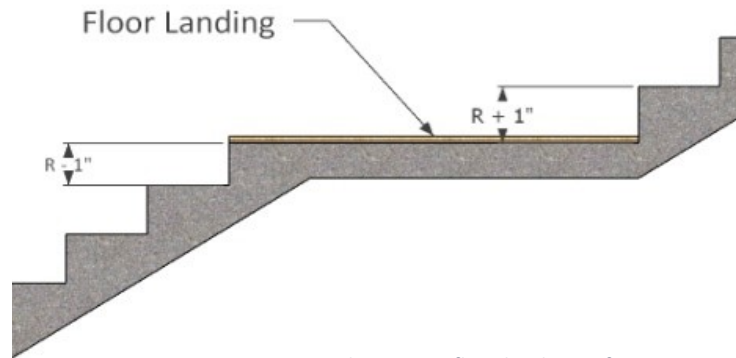

Figure 6: Dimension coordination at floor landings of stairs
- Fig. 6: Where Acoustic Sleeper system is installed over the entire floor plate, extend system onto floor landings at stairs. Fabricate first riser down from landing 1-inch shorter than typical riser in run. Fabricate first riser up from landing 1-inch taller than typical riser in run. Intermediate landings do not need this alteration.